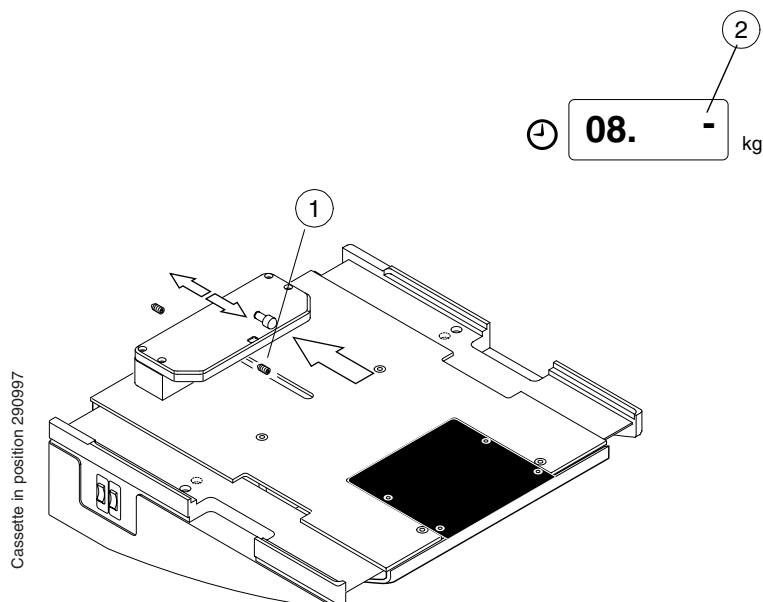

Figure F.40
- Press the sensing button (Fig. F.40, 1) and check that the right middle signal (Fig. F.40, 2) on the display lights.